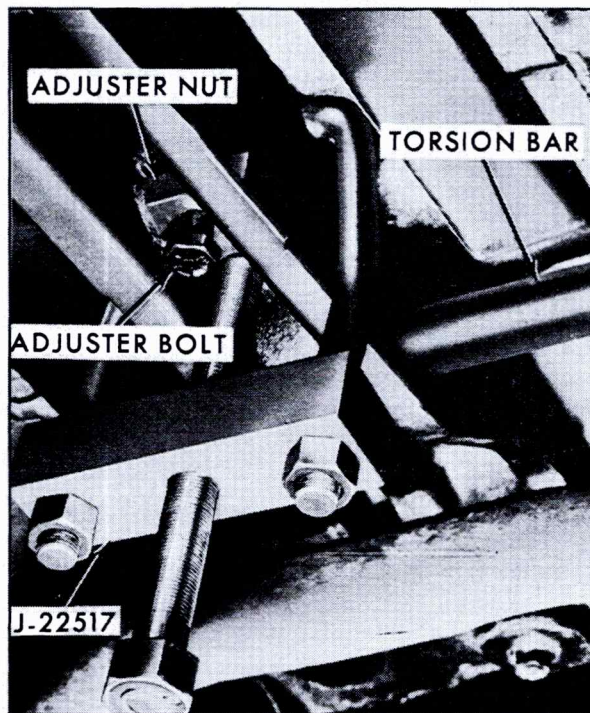

Fig. 3-44 Removing and Installing Torsion Bar
5. Install Torsion Bar Remover and Installer, J-22517, on Torsion Bar Cross Member. Fig. 3-44.
11. Install Torsion Bar Remover and Installer, J-22517, on cross member, Fig. 3-44.